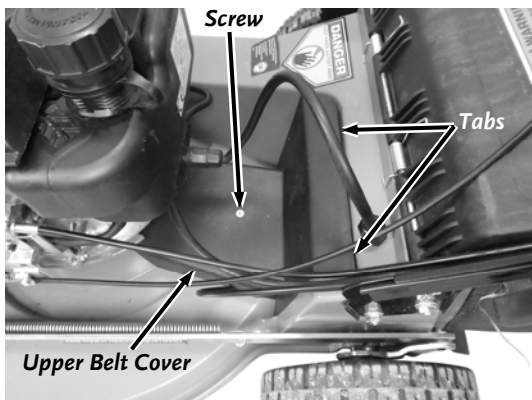

Figure 39
1. Remove the Screw from the upper Belt Cover using a Philips Head Screwdriver and remove the Belt Cover (**Figure 39**).